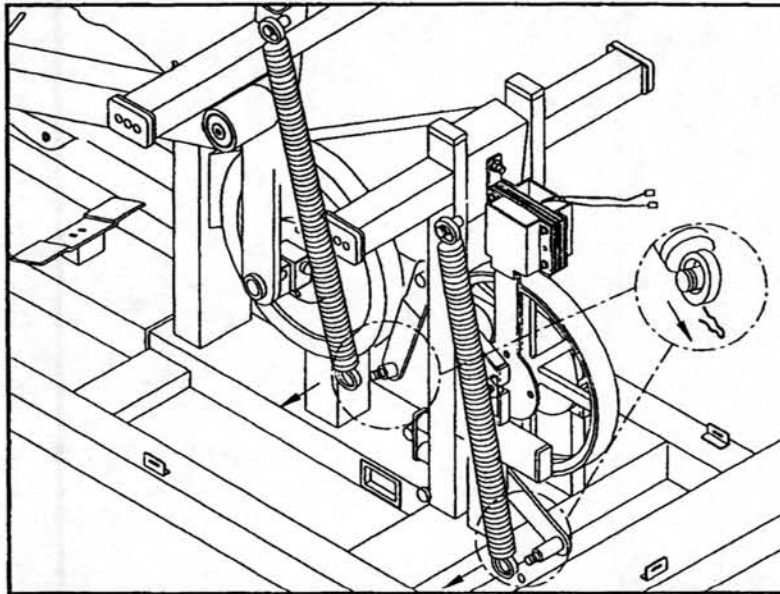

Fig.14-1
2. Pull off two PINS which fixing the springs on the IDLER WHEEL ASSEMBLY and remove the springs out (see Fig. 14-1).